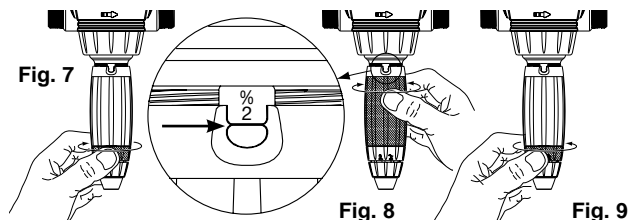

Fig. 7
- Unscrew the blocking ring (Fig. 7).